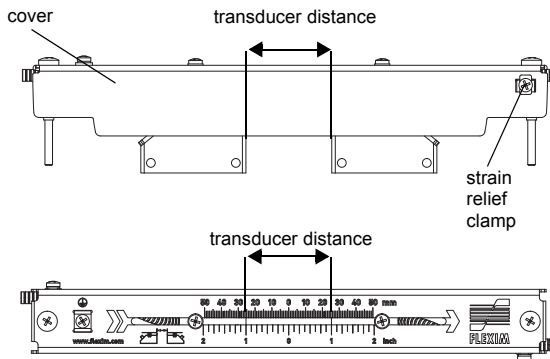

Fig. 7.21: Adjusting the transducer distance
- Adjust the transducer distance recommended by the transmitter (see Fig. 7.21).
- Fix the transducer cables with the strain relief clamp to protect them from mechanical strain (see Fig. 7.21).